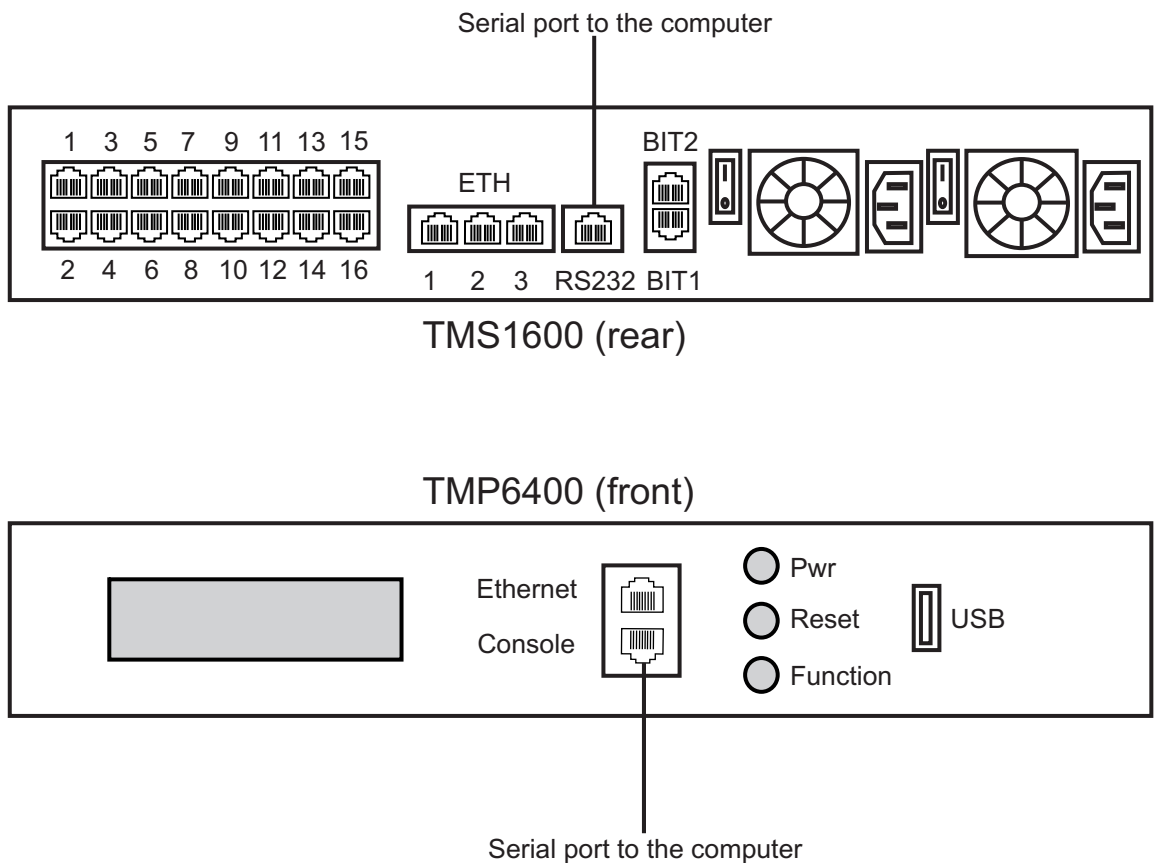

Figure 2.4 Computer to Tmedia Unit Serial Port Connection
1. Connect a CAT5 RJ-45 (male-male) cable (supplied with unit) between the com port of your computer and the serial port of the Tmedia unit as shown in figure 2.4 on page 14. See Section 2.6 “Console pinout” on page 15 for a RJ-45 pinout description.